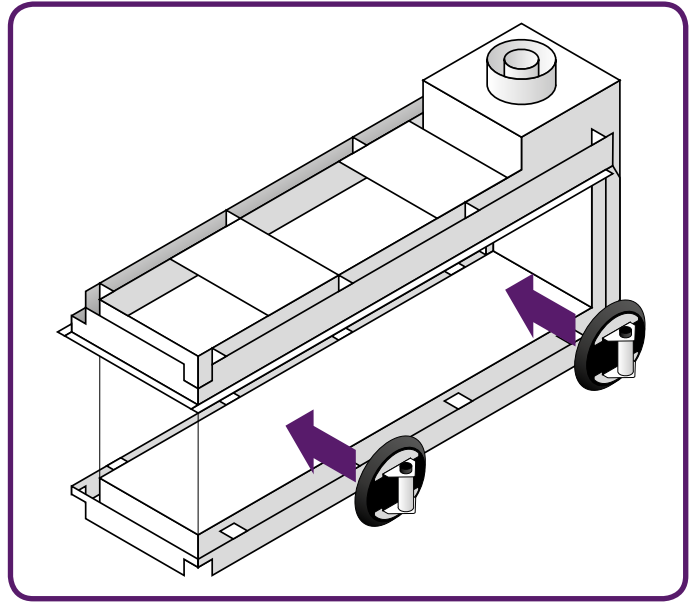

Figure 10.12 - Put on the suction cup
- Put the section cup on the glass and make sure it is properly vacuumed, so it will not come off. (See **Figure 10.12**)